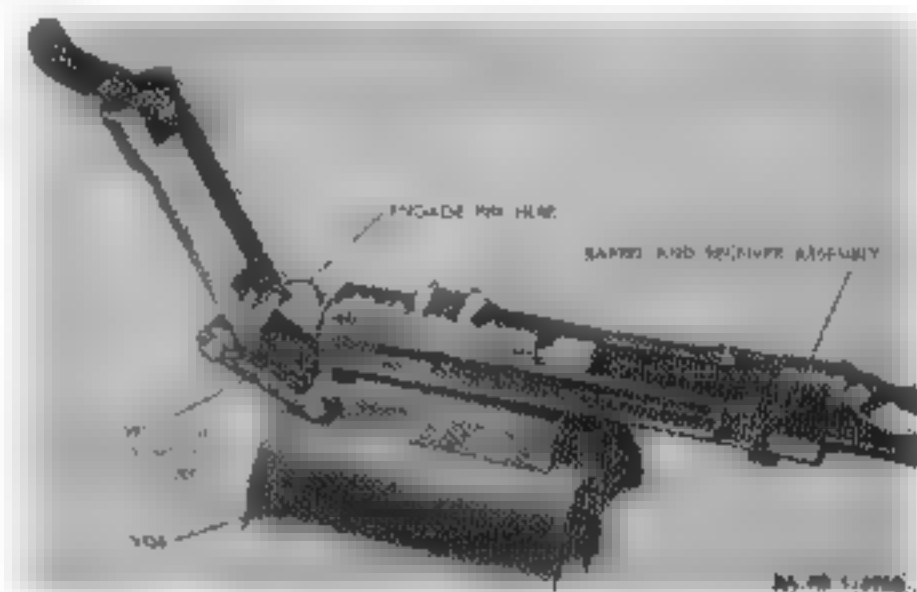
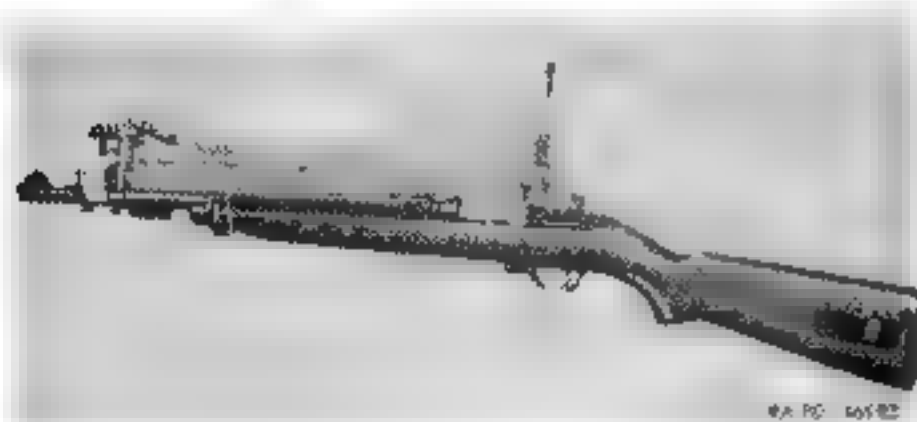

Figure 87. Placement of barrel and receiver assembly in vice-held stamping fixture.
Figure 89. Carbine clamped in bench-mounted stamping fixture.
- (2) *Obscured serial numbers (DEPOT MAINTENANCE ONLY).* Maintenance organizations engaged in restamping serial numbers will fabricate fixtures locally to reinforce and clamp the receiver during the stamping operation. Two fixtures have been developed for this purpose; the vise-held stamping fixture (Figs. 87 and 88) and the bench-mounted stamping fixture (Figs. 89 and 90). The choice of fixture which best suits the requirements of the maintenance organization is left to the discretion of that organization.
1. Secure fixture firmly in vise as shown in figures 87 and 88.
2. Clamp the barrel and receiver assembly in the fixture (Figs. 87 and 88).
2. Remove the bolt from the carbine and clamp the carbine in the fixture, as indicated in figures 89 and 90.